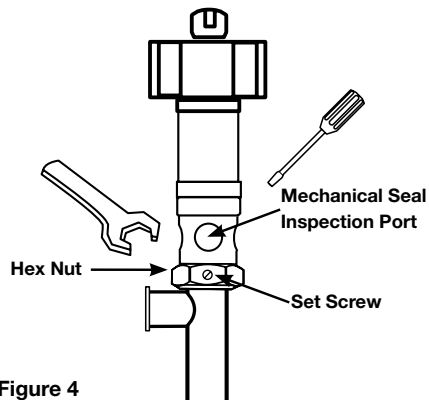

Figure 4
2. Loosen set screw on side of Hex Nut (see Figure 4).
3. Place a screwdriver (or similarly shaped object) in the mechanical seal inspection port (see Figure 4).
4. Use a large wrench to loosen the Hex Nut while simultaneously holding the screwdriver in the seal inspection port (see Figure 4).